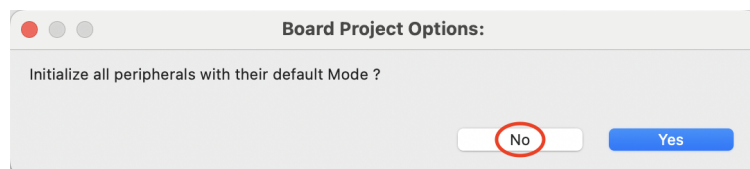

Figure 3: Decline to initialize peripherals with default mode.
- When asked to initialize peripherals in default mode, click **No** (Figure 3).